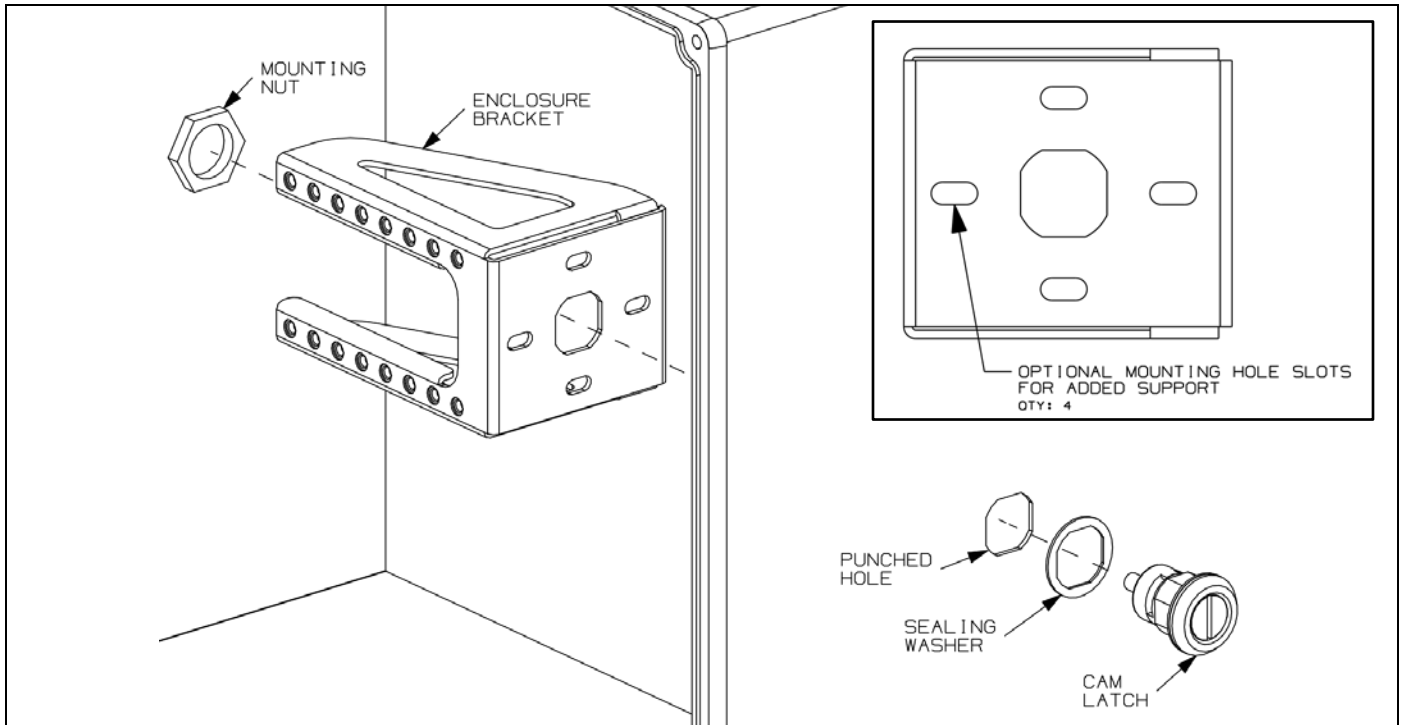

Figure 2 – Quick Assembly Guide 1 – Control Power (VS-ACK-CPWR)
2. Insert the Cam Latch into the knockout hole. Ensure that the Sealing Washer is properly seated between the panel wall and the Cam Latch (see **figure 2**).
3. Install the Enclosure Bracket onto the Cam Latch and hand tighten the Mounting Nut. Check that the bracket is level and finish tightening the Mounting Nut to 88 IN*LB (10 N*m) max (see **figure 2**).